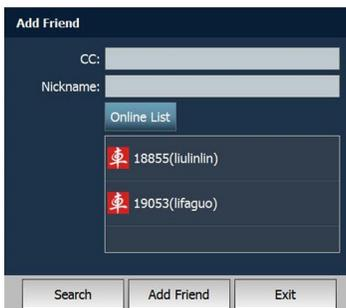

Fig. 10-3
- 2) To view the online CC users, click “Online List”, a screen similar to Fig. 10-3 will appear: